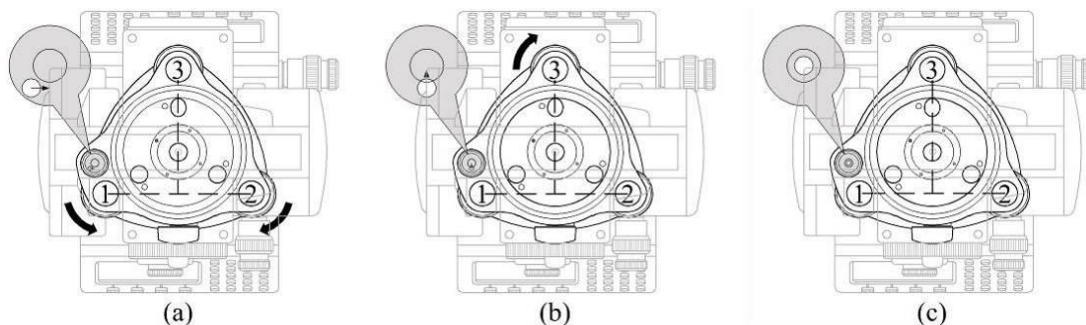

Figure 2-5 The relationship between the direction of rotating foot screws and the movement of the circular bubble
① Rough centering: Hold the tripod with both hands tightly, then observe the laser point on the ground with your eyes. Move the tripod legs to make the laser point is basically aligned with the center of the survey station (attention should be paid to keep the tripod head level), and step the toes of the tripod into the soil.
② Refined centering: Slightly loosen the connecting screw, and hold the instrument base with both hands. Move the instrument on the tripod head, and rotate the foot screws so that the laser point is accurately aligned with the center mark of the survey station. The error should be less than 1mm. Then tighten the connecting screw.
③ Rough leveling: Rotate No. 1 and 2-foot screws to move the round bubble to the middle of the line connecting No. 1&2-foot screws [Figure 2-5(a)]. Rotate No. 3 foot screw to center circular bubble [Figure 2-5(b)], and finally centering is completed as shown in Figure 2-5(c).